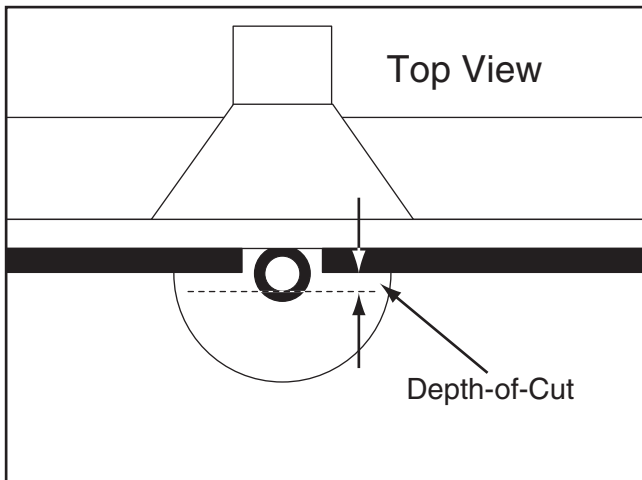

Figure 18. Groove cutting setup, top view (guard removed for clarity).
4. Raise the bit to the desired height, then adjust the fence assembly so the fence boards are behind the bit the same distance as the desired depth-of-cut (see the illustrations in **Figures 18–19**).